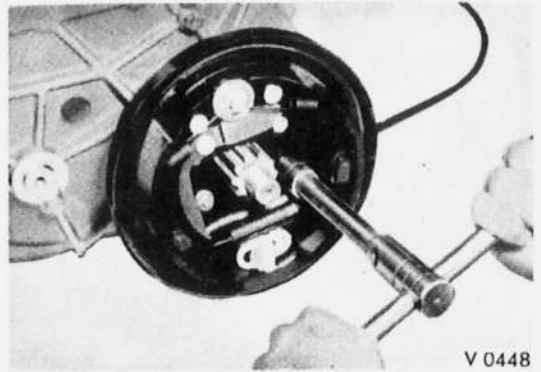

Fig. 3-24. Removing the center brake back plate from the speedometer housing.
17. Remove the four hex-head cap bolts and spring washers that secure the brake plate complete to the speedometer housing. (Fig. 3-24)